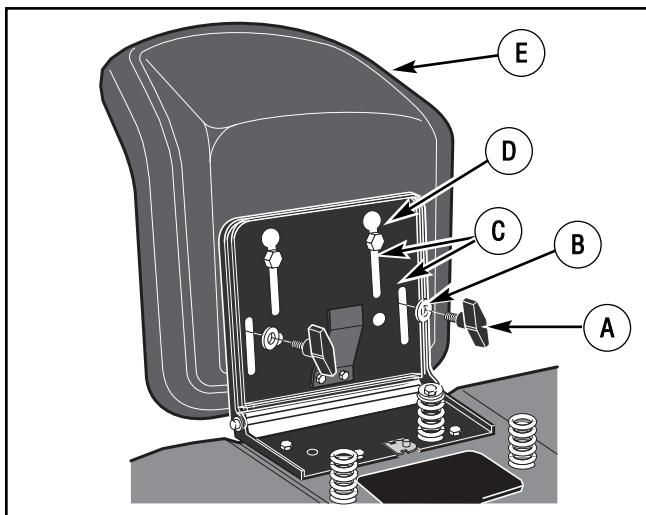

Figure 5: Seat
2. Align the holes in the **seat hinge** to the holes in the **seat** (Figure 5). Fasten the seat to the **seat hinge** with the fasteners as shown.
3. Check the operating position of the **seat**. If the **seat** needs to be adjusted, loosen the two **wing bolts**. Slide the **seat** forward or backward along the **seat adjusting holes** as shown. Tighten the **wing bolts (A)**.